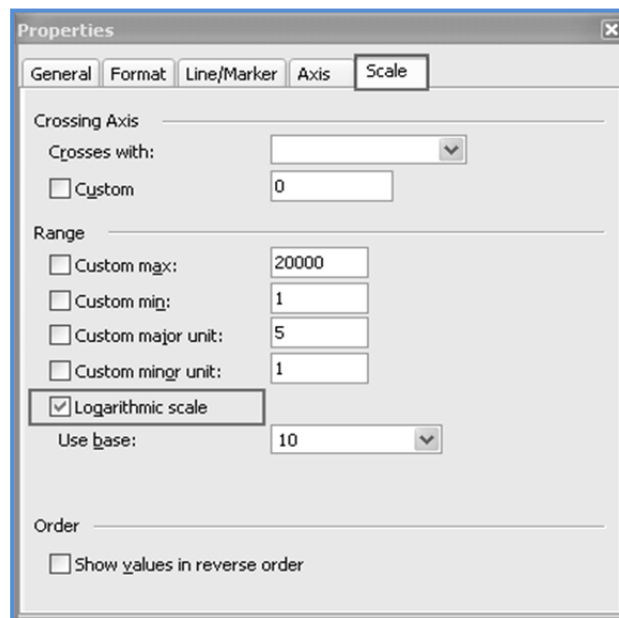

Fig. 1.2.68: Scale Properties
2. In the **Properties** window that appears, go to the **Scale** tab and check **Logarithmic Scale** checkbox as displayed in Fig. 1.2.68.